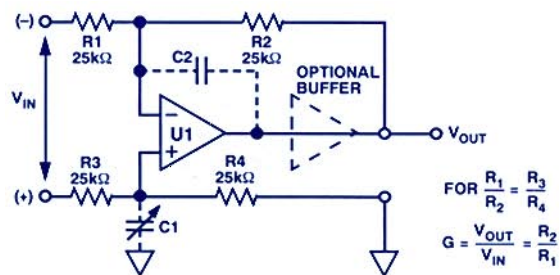

Figure 2. Simple line-receiver topology.
A major purpose of this circuit and all line receivers is to reject common-mode noise, as might be picked up on a twisted-pair transmission line. A brief review of the topologies and pros and cons of active audio line receivers helps in understanding their evolution. The classic single-op-amp, 4-resistor subtractor circuit of Figure 2 can act as a differential amplifier. When the resistor ratios provide gain, the circuit is known as an instrumentation amplifier (IA). Some of today's IC audio line receivers, based on feedback circuitry, are direct descendants of this circuit. [5]-[9]
The circuit of Figure 2 is simple; the minimum ingredients are four matched film resistors and a good audio op amp. While it works functionally, its degree of common-mode rejection (CMR) may be problematical. The performance of such bridge-based difference amplifiers depends critically upon resistor-ratio matching—including source impedances in series with R1 and R3. The amplifier also contributes error, but with a high-quality op amp, noise rejection is limited by ac & dc bridge unbalance.
The Figure 2 topology is most effective when the resistors and amplifier are made simultaneously in a single monolithic IC. The Analog Devices 8-pin SSM-2141 and SSM-2143† are such ICs, designed and characterized as low distortion, high CMR audio line receivers with net gains of 1.0 (SSM-2141), and 0.5 (SSM-2143). The SSM-2141 has the same resistance values as in Figure 2, while the SSM-2143 uses 12-k $\Omega$ /6-k $\Omega$  resistors.
Figure 2's working CM input range is  $[1 + (R_3/R_4)] \times V_{CM(U1)}$ , and the differential input resistance is  $R_1 + R_3$ . Gain of the circuit isn't easily changed, because of the matched R-ratios.